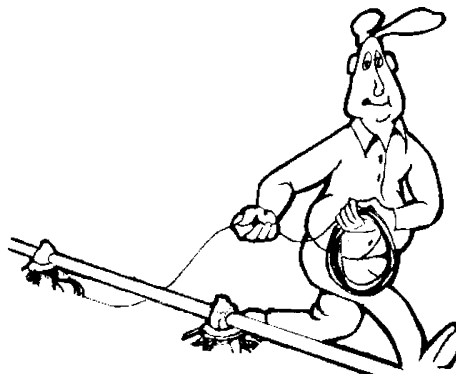

Figure 29. Unrolling the Cable
1. Unroll the bulk anti-roost cable. Note: If the cable is unrolled as shown in Figure 29, taking 5 loops of the coil with one hand, then changing hands to remove 5 loops as it is unrolled, it will lie flat during installation.